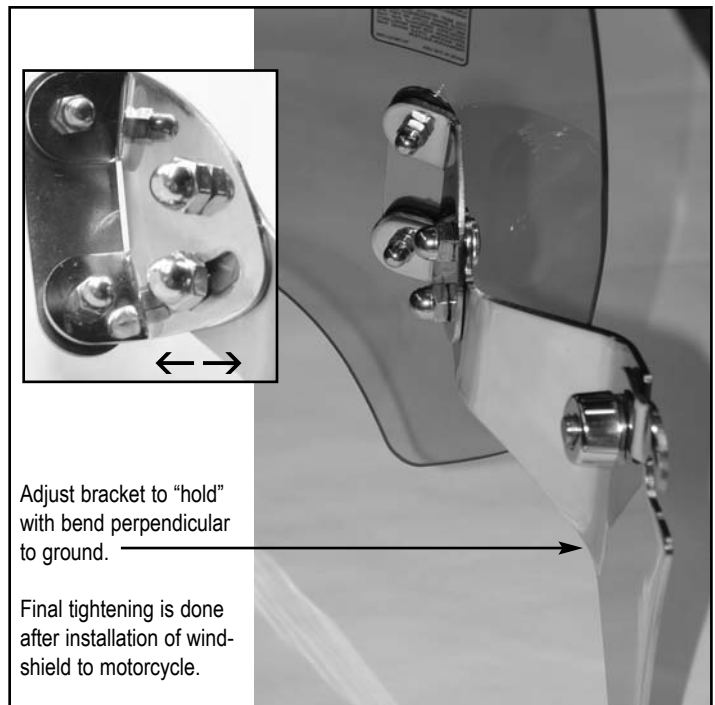

Figure 3.
3. Repeat on left side. For now, adjust Brackets so bend is perpendicular to the ground and screen has a slight rake. Tighten to hold. **Figure 3 and 4.**